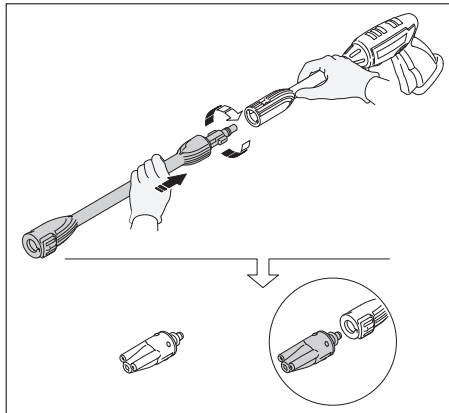

Fig. 7
- While the spray gun trigger is in the locked position, insert the lance into the spray gun by inserting, pushing together and turning clockwise simultaneously (**Fig. 7**). To remove push together and turn counter clockwise. Push the safety lock button to lock the trigger when changing the lances to ensure that they do not accidentally eject with force during removal.